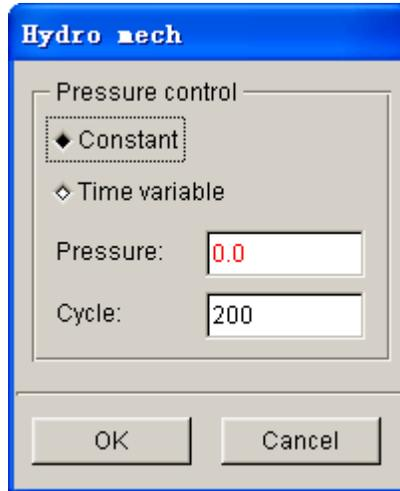

Figure 8.2.96 Hydro Pressure-Time Curve Defines
**PRESSURE:** Set up internal fluid pressure vs. time curve. This parameter is essential in sheet hydro forming. The user may click  button to key in values of internal fluid pressure vs. time curve in the define dialog box illustrated in Figure 8.2.96.